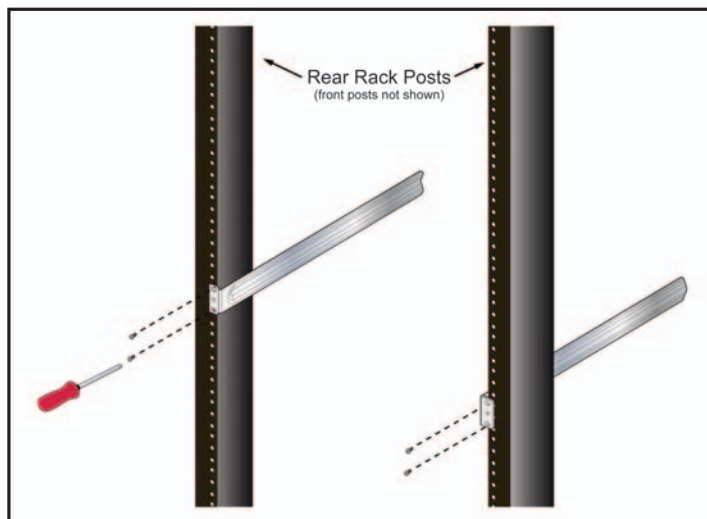

Figure 3-11: Attaching the Rails, as viewed from Rear of Rack
- Step 2** Attach the rails to the rear rack posts, as shown in Figure 3-11.